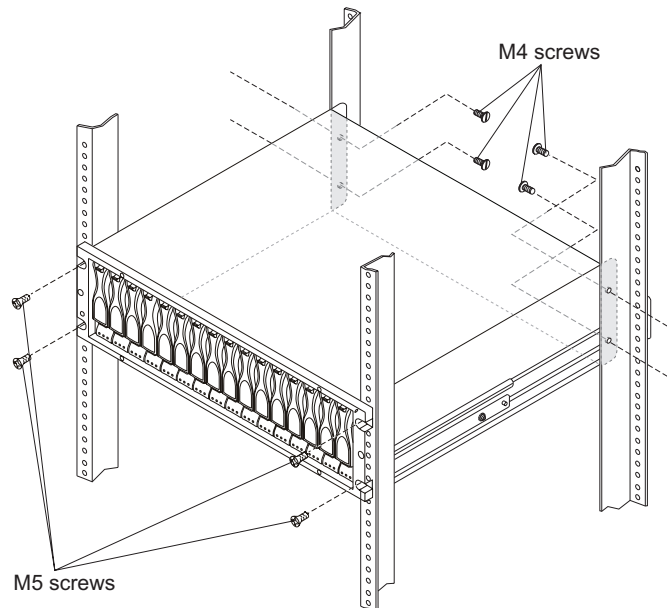

Figure 19. Securing the DS3950 to the rack cabinet
4. Secure the storage subsystem. Figure 19 shows how to secure the storage subsystem to the rack.
- c. Secure the front of the DS3950 using the four M5 screws as shown in Figure 19.